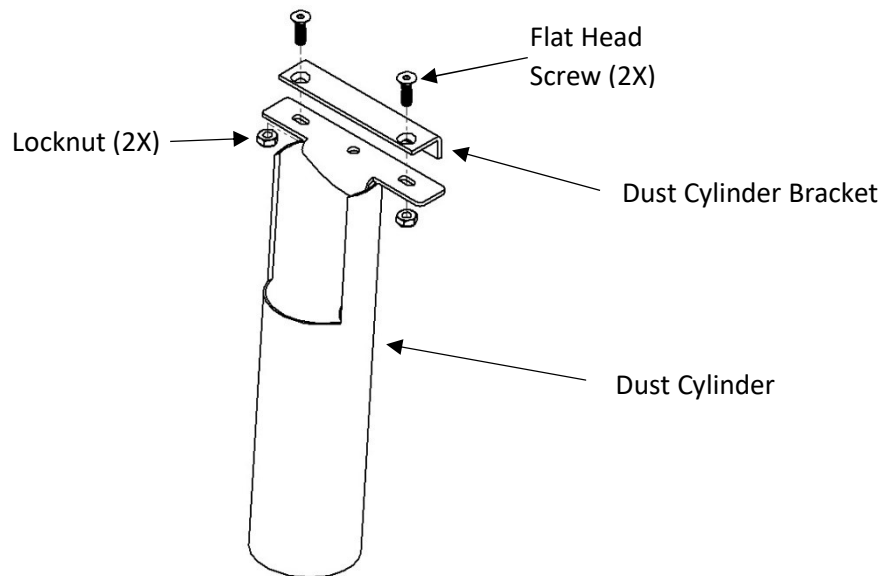

Figure 27: Dust Tube Bracket Mounted
5. Place the dust cylinder bracket on top of the dust tube. Align the countersunk holes of the bracket with the slots of the dust cylinder. Insert 2X flat head screws through the countersunk holes and through the slots. Tighten 2X locknuts with 5/32" Allen wrench (supplied) and 7/16" wrench (not supplied). See Figure 27.